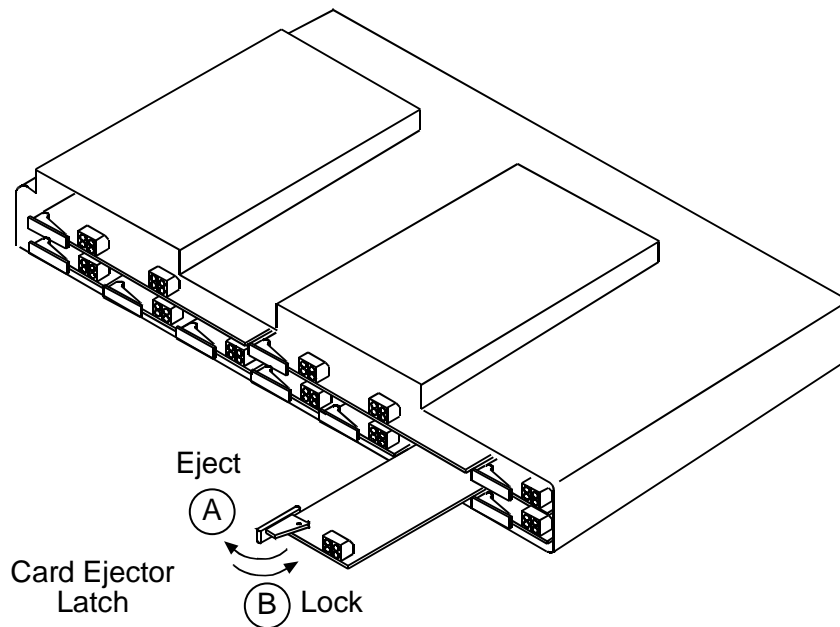

Figure 16-11. Installing Quad T1 Framer Card
NOTE: Figure 16-11 shows replacement of QF card #6.
2. Straighten card ejector latch (see Figure 16-11) to loosen old QF card. Carefully slide QF card out of slot and set aside.
3. Remove new QF card from antistatic wrapper and straighten card ejector latch (see A in Figure 16-11).
5. Press card ejector latch in toward center of card (see B in Figure 16-11) to secure card in card slot.